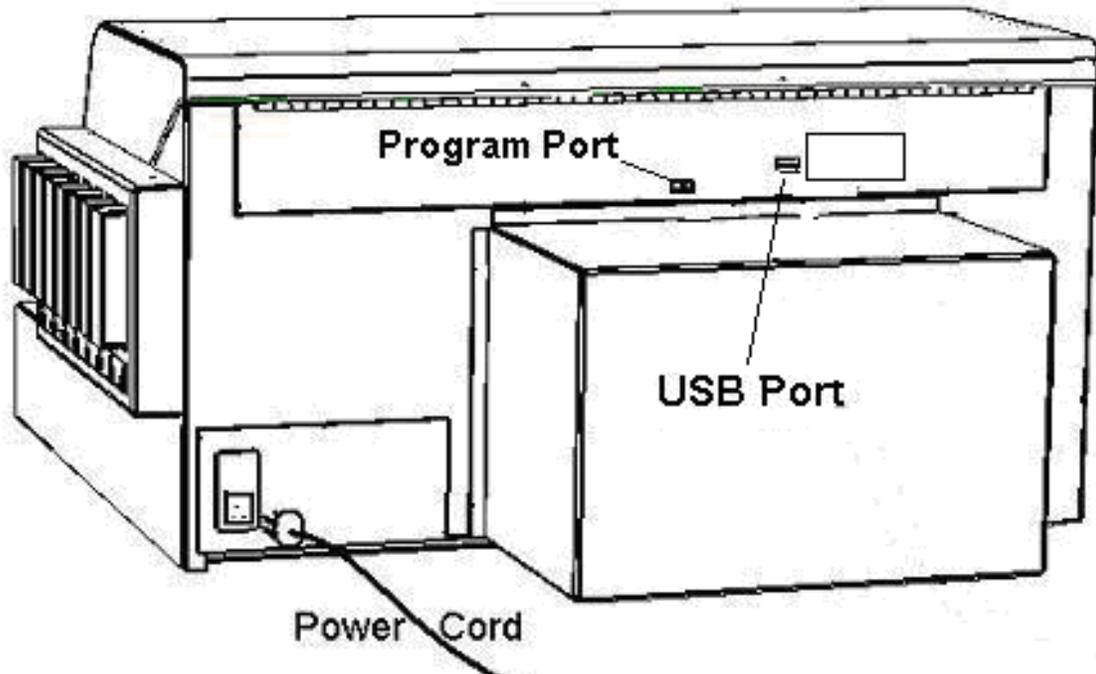

Figure 3.8
- Plug in the provided USB Cable to the USB port in the rear of the printer, (see figure 3.8).